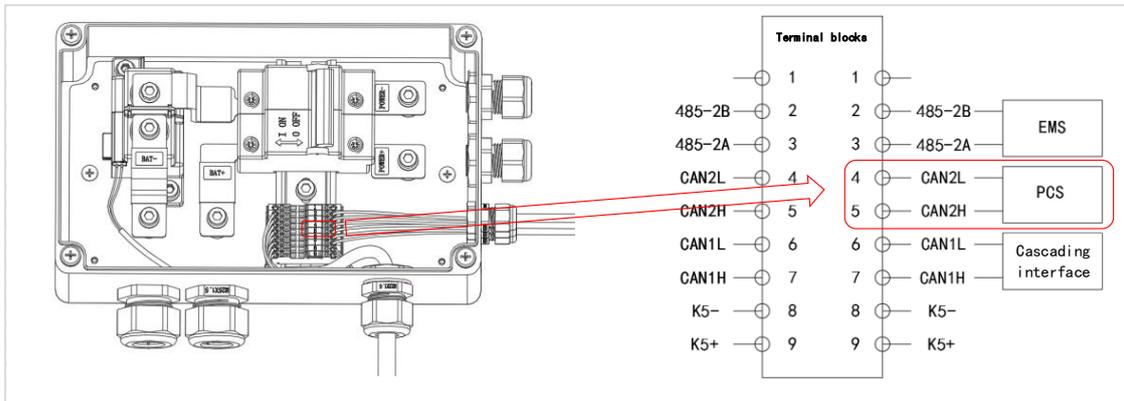

Figure 4-4
- Take down the cable gland of PCS interface on the maintenance control box (A), and pass the communication harness through the cable gland and the PCS interface in turn.
- As shown in Figure 4-4, the communication harness is connected to the corresponding position of the terminal